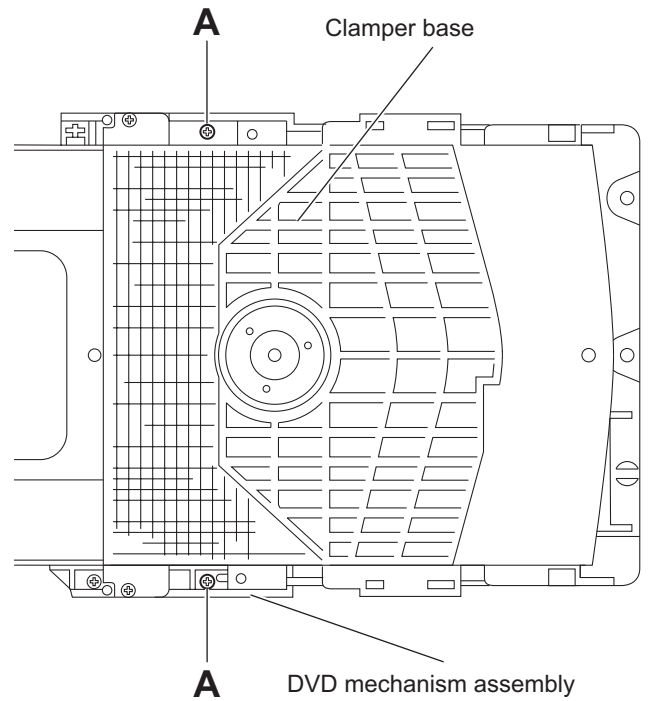

Fig.1
(See Fig.1 to 6)
- (1) Remove the two screws **A** attaching the tramecha holder from top side of DVD mechanism assembly. (See Fig.1)